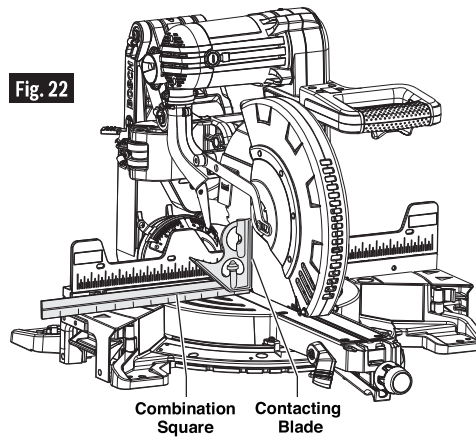

Fig. 22
8. Use a combination square to check that the blade is 90° (square) to the table. Place the square's ruler edge against the table and slide it to contact the blade with the vertical side of the square's head (see Figure 22).
4. Place combination square on table and against blade (see Figure 22).
8. Adjust bevel scale pointers (item 36 – page 12) to be in line with the bevel scale’s 0° lines.